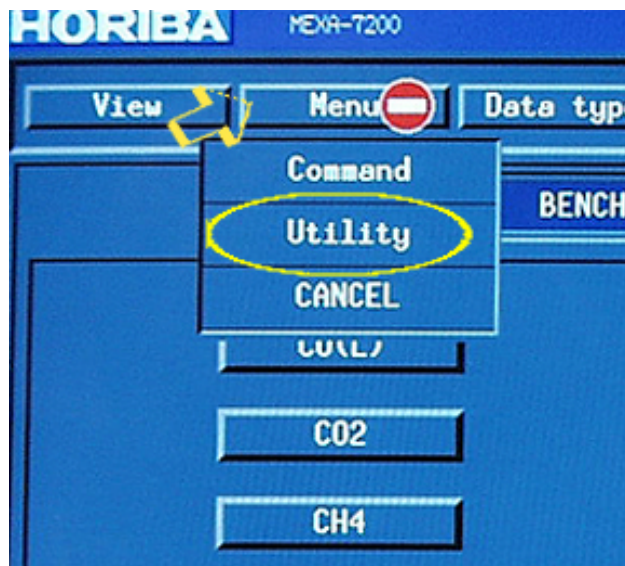

Figure 3
- 101 On the display setup portion of the screen, click on the “Menu” button. See arrow in Figure 3. From the menu items that appear, click on “Utility” (see circle in Figure 3) and the “Utility” screen will appear.